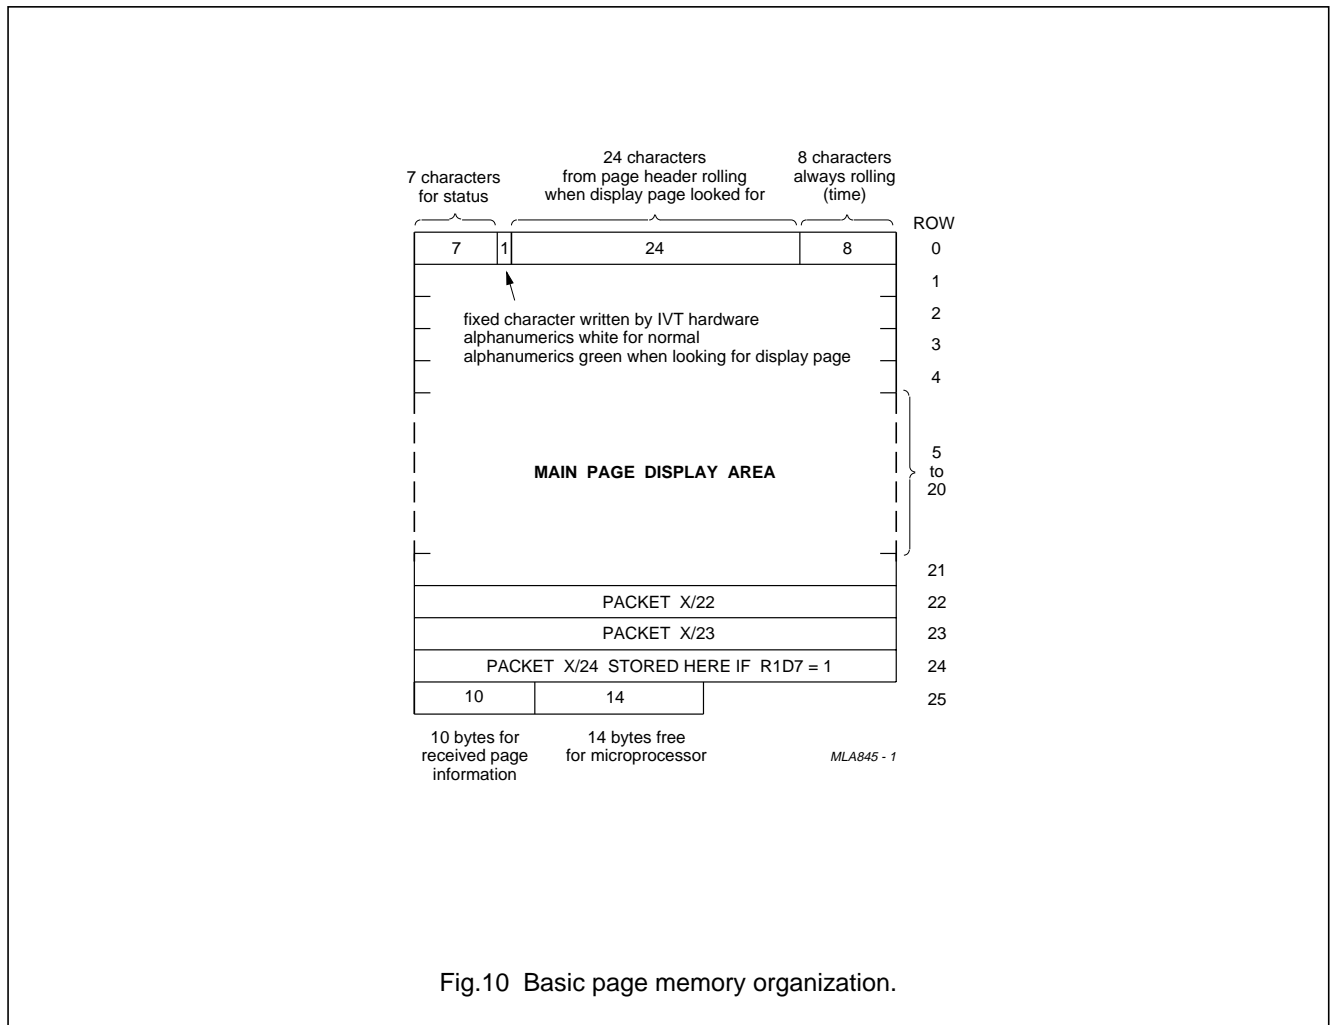

Fig.10 Basic page memory organization.
The organization of the page memory is illustrated by Fig.10. The SAA5246A provides an additional row as compared with first generation decoders; this brings the display format up to 40 characters by 25 rows. Rows 0 to 23 form the teletext page; row 24 is the extra row available for software generated status messages and FLOF/FASTEXT prompt information.
**Note to Fig.10**